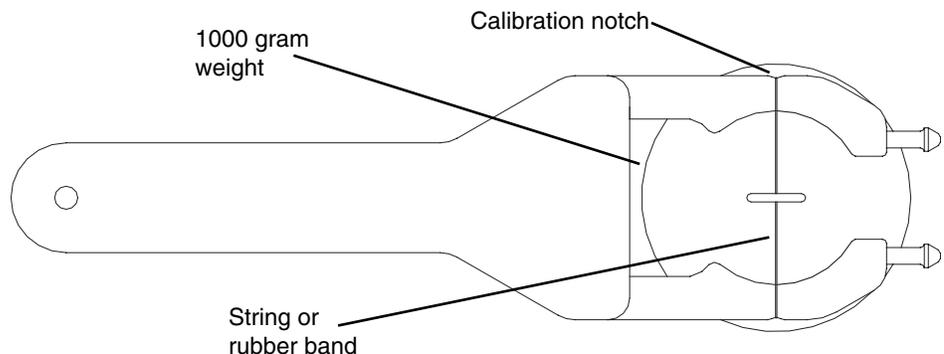

Figure 4-4, PN 52025-00 Weigher Arm (Top View)
- a) Suspend a calibrated 1000 gram weight from the center of the bottle area by hanging the weight between the weigher arm fingers using string or a rubber band of minimal weight and thickness. Place the string or rubber band over the weigher arm fingers so they are centered within the calibration notches. (See Figure 4-4 below.) The string or rubber band thickness should be small enough to allow it to center within the calibration notches, but strong enough to securely hold the weight.